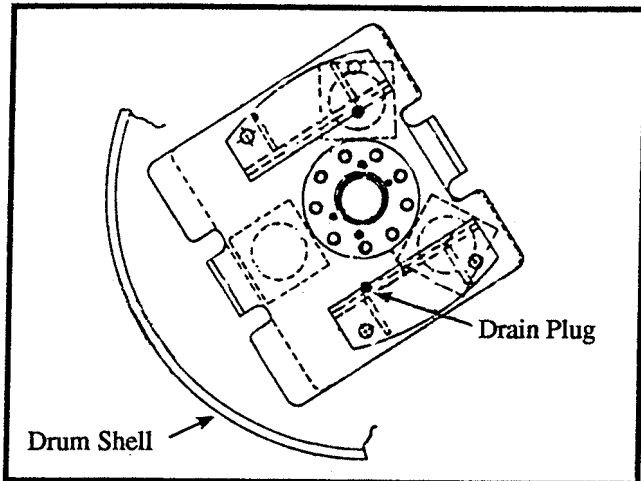

Figure 12-2. Eccentric Drain Plug Position
The eccentric bearings are splash lubricated with oil contained in the eccentric housings. Refer to Figures 12-2 and 12-3. The eccentric oil is to be changed after the first 50 to 100 hours of operation during the initial break-in period. Thereafter, the oil should be changed every 500 hours or semi-annually. Due to an eccentric bearing change for the SD-70DA machines S/N 5512 and above, the oil change for these machines occurs at 1000 hours or annually, instead of 500 hours. Refer to Section 13 - 1000 Hour or Annual Routine Maintenance for this oil change procedure.
2. Position the drum so one of the two eccentric plugs is in the 6 o'clock position. Refer to Figure 12-2.